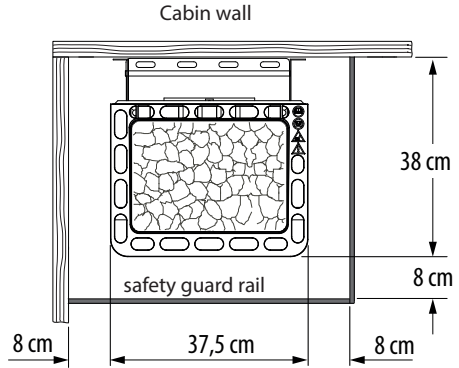

Fig. 2
- When you install the sauna heater you must ensure that the vertical distance between the top edge of the sauna heater and the sauna ceiling is at least **90 cm** and that the horizontal (at the side) distance between the heater and cabin wall is at least **8 cm** (Fig. 2).